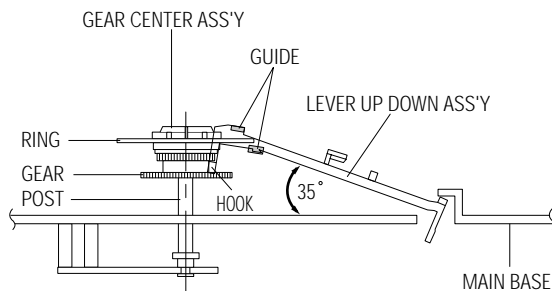

Fig. 2-30 Lever Up Down Ass'y Removal
- 1) Insert the Lever Up Down Ass'y ❶ in the rectangular holes on Main Base as shown in Fig 2-30.
- 2) Lift the Lever Up Down Ass'y ❶ about 35°.
(Refer to Fig 2-30)